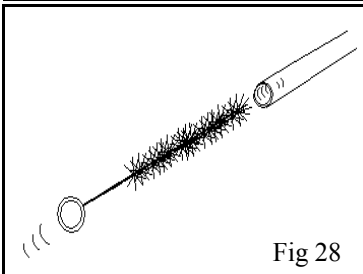

Fig 28
3. Clean inside tubes & holder with brush provided. Fig 28.